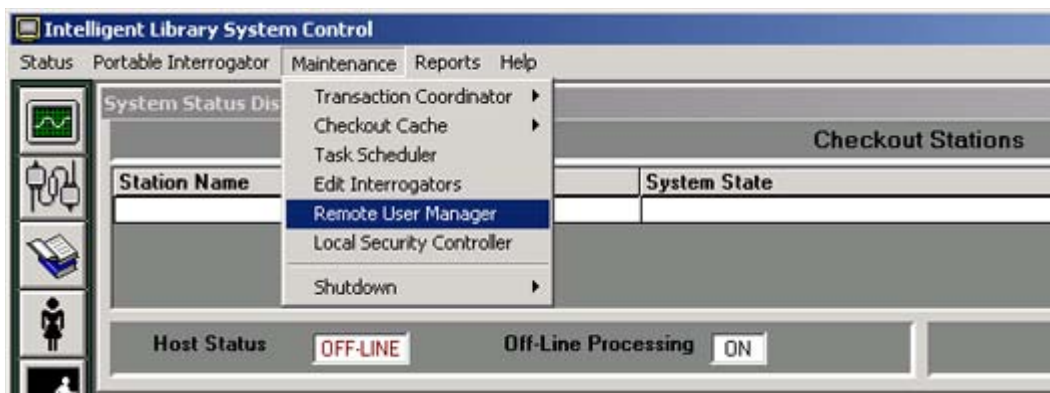

Figure 5.4 Select Remote User Manager
- 1 In the Intelligent Library System Control window, select **Maintenance > Remote User Manager** (Figure 5.4).